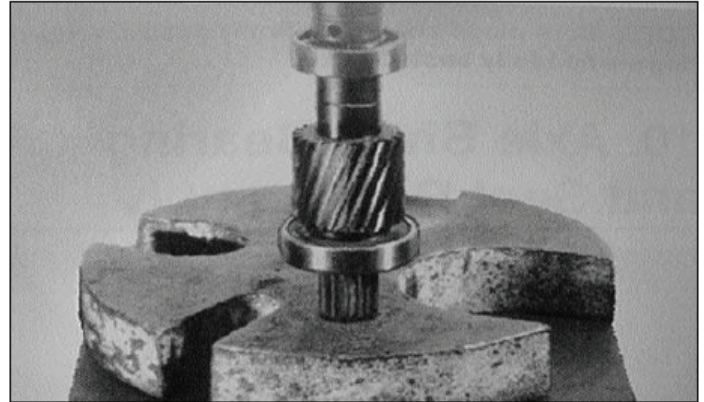

Figure 7-23. Installing Bearings on Input Shaft
1. Prior to installing, wipe new O-rings with SAE 30 weight oil. Install one O-ring (14) into outer input shaft (12) bearing bore. Install two O-rings (14) into intermediate shaft (9) bearing bores and two O-rings (10) onto intermediate shaft and gear assembly.
2. Press inner and outer bearings (13, 15) on input shaft (12) until seated against bearing shoulders. See Figure 7-23.
3. Install new O-ring (14) into bearing bore of input shaft (12).